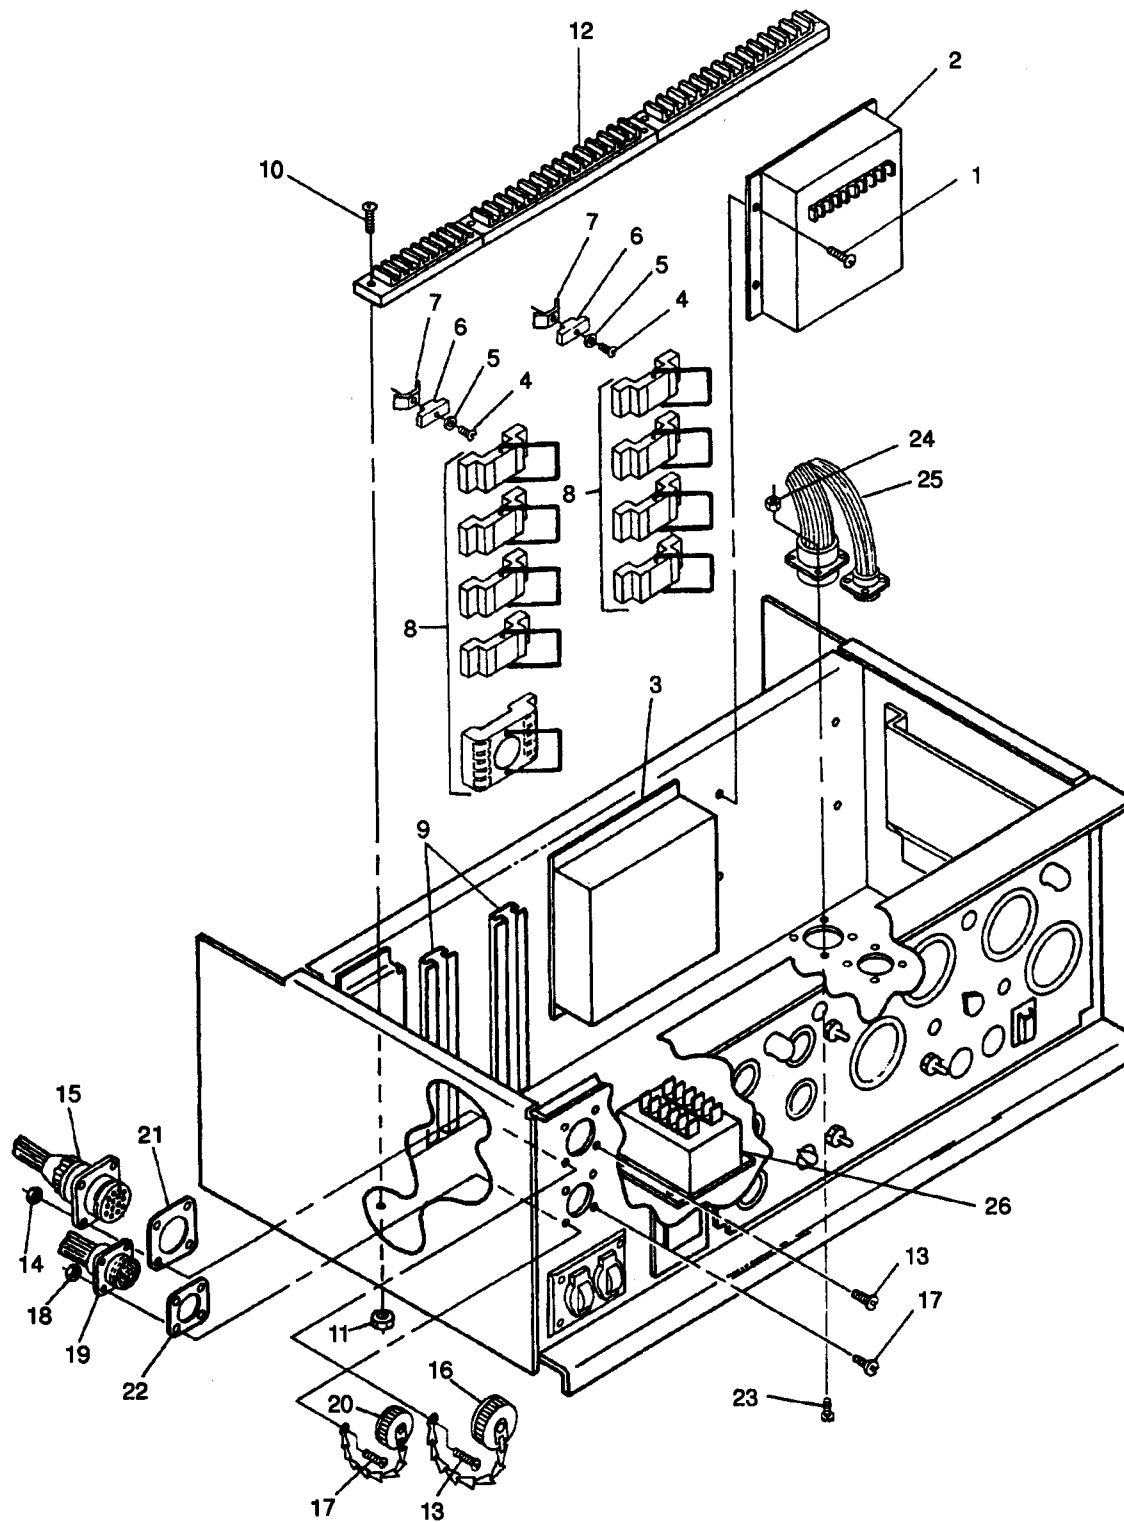

FIGURE 4-3. CONTROL BOX COMPONENTS
- s. Set multimeter for DC volts and connect to terminals 11 and 12 of governor control unit (3, FIGURE 4-3). t. Adjust LOAD SHARING ADJUST rheostat until multimeter indicates 6 VDC. Disconnect multimeter.
- (1) Turn GOV GAIN potentiometer to its full clockwise position.
- (2) Momentarily actuate and turn off LOAD switch on control panel.
- (3) Observe strip chart on recorder for frequency oscillation (hunting). If required, slowly turn GOV GAIN counterclockwise until frequency oscillation disappears.
- f. Remove screws (4, FIGURE 4-3), washers (5), insulators (6), and clips (7).
- g. Tag and remove sockets (8) from tracks (9).
- h. Remove screws (10) and nuts (11) to free terminal boards (12).
- i. Tag and disconnect electrical leads from AC voltage regulator (2) and governor control unit (3).
- k. Tag and disconnect electrical leads to CONVENIENCE RECEPTACLE (20), GROUND FAULT CIRCUIT INTERRUPTER (23), and connector to malfunction indicator panel (27).
- m. Remove screws (13 and 17, FIGURE 4-3), nuts (14) and (18), caps (16) and (20), diagnostic connector (15), parallel connector (19), and gaskets (21) and (22) from control box panel.
- n. Remove screws (23) and nuts (24) from harness connectors and remove harness assembly (25) from control box.
- a. Position control box wiring harness assembly (25, FIGURE 4-3) in control box.
- b. Secure harness connectors to control box with screws (23) and nuts (24).
- c. Install gaskets (21) and (22), diagnostic connector (15), parallel connector (19), and caps (16) and (20) in control box panel with screws (13) and (17) and nuts (14) and (18).
- f. Connect electrical leads, as tagged during removal, to watt transducer (40), load measuring unit (69), reverse power relay (49), permissive paralleling relay (51), resistor-diode assembly (71), short circuit/overload relay (47), frequency transducer (38), over/under voltage relay (45), DC CONTROL POWER circuit breaker (35), BATTERY CHARGER FUSE assembly (32), OVERSPEED RESET switch (10), FREQUENCY SELECT switch (14), REACTIVE CURRENT ADJUST rheostat (3), LOAD SHARING ADJUST rheostat (7), and shunt (43). Remove tags.
- g. Connect electrical leads to AC voltage regulator (2, FIGURE 4-3) and governor control unit (3). Remove tags.
- h. Secure terminal boards (12) to control box with screws (10) and nuts (11).
- i. Position sockets (8) on tracks (9) as tagged on removal.
- j. Secure sockets (8) to tracks (9) with dips (7), insulators (6), washers (5), and screws (4). Remove tags.
- f. Set multimeter for DC volts and connect positive lead to terminal 11 of load measuring unit (26, FIGURE 4-3) and negative lead to terminal 12.